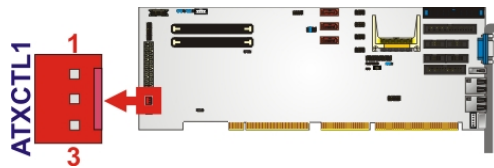

Figure 3-2: ATX Power Control Connector Location
- CN Location:** See **Figure 3-2**